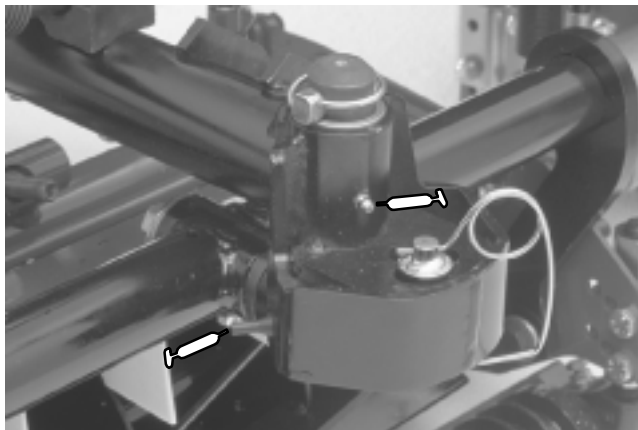
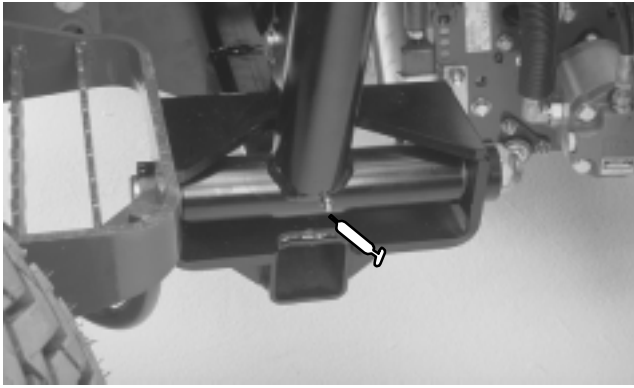
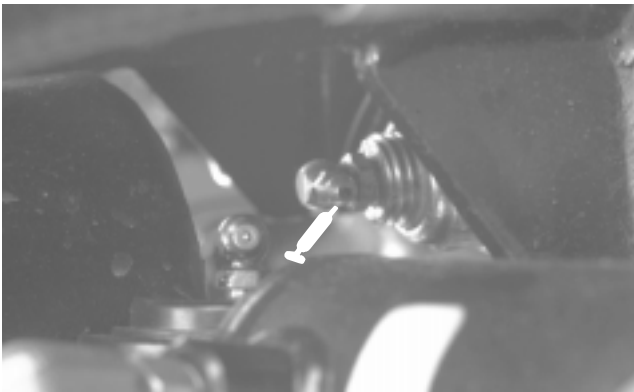
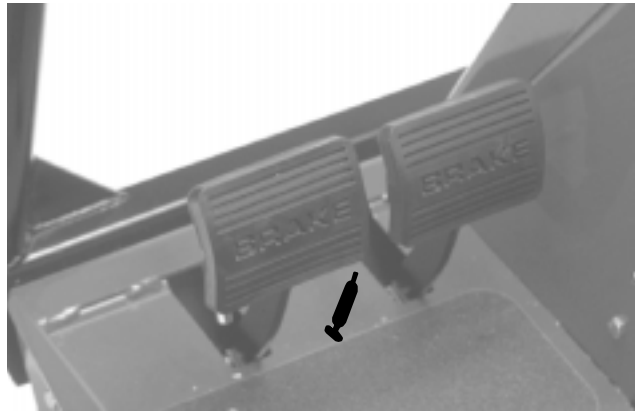

Figure 30
Figure 35
Figure 36
Figure 38
(Fig. 30–38)
1. The grease fitting locations and quantities are: Cutting unit carrier frame and pivot (2 ea.) (Fig. 30); Rear axle tie rod (2), Steering cylinder ball joints (2), (Fig. 32); Front lift cylinders (3), (Fig. 33 and 37); Rear lift cylinder pivot (4), (Fig. 34); Lift arm pivot (3), (Fig. 35); Rear axle pivot (Fig. 36) Rear lift arm pivots (4) (Fig. 31) and Brake pedal shaft (1) (Fig. 38).